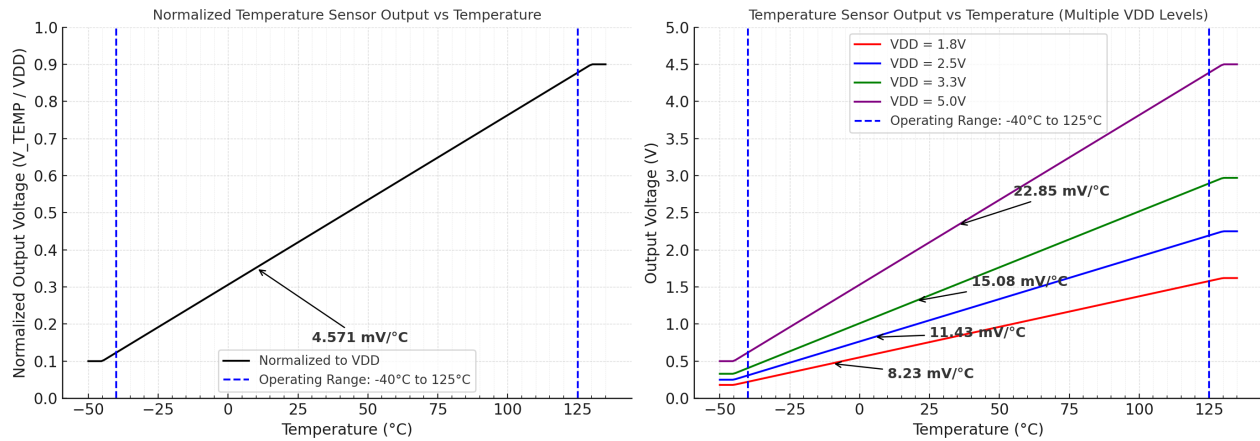
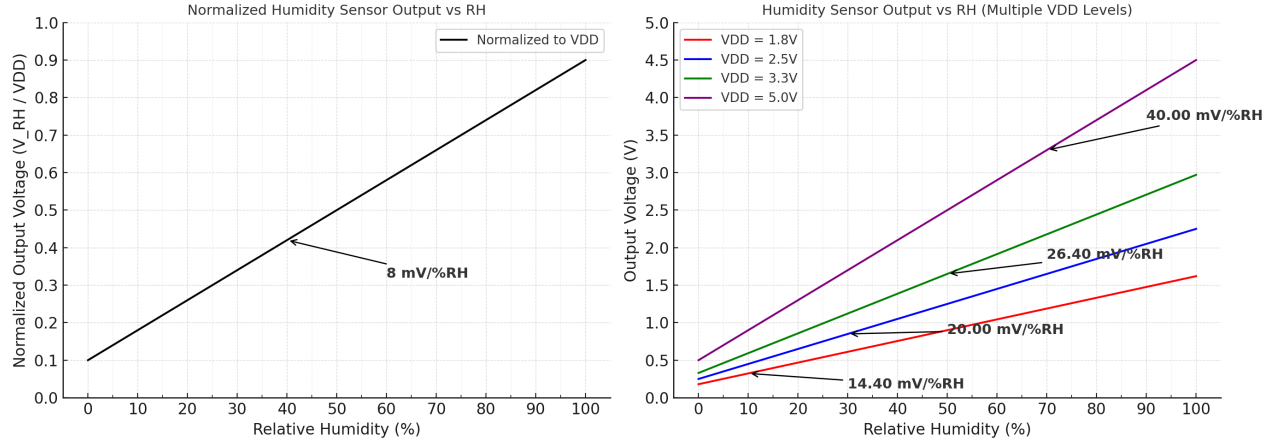

Figure 2-4. HDC3120 Temperature Output Profile
Figure 2-5. HDC3120 %RH Output Profile
The temperature (TEMP) and relative humidity (RH) outputs of the HDC3120 are available through either 3-position terminal blocks or optional SMA connectors. These outputs are represented as ratiometric analog voltages, meaning the outputs scale proportionally to the supply voltage (VDD). This design provides consistent measurements even in the presence of supply fluctuations. Figure 2-4 shows the temperature output profile of the HDC3120 based on the supply voltage of the device. Figure 2-5 shows the same for the relative humidity output profile.